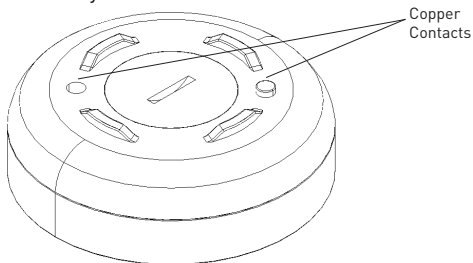

Figure 14
- b) Water Sensor: Press and hold the copper contact (e.g. Figure 14) at the same time to trigger the leakage alarm to test whether the system functions normally.